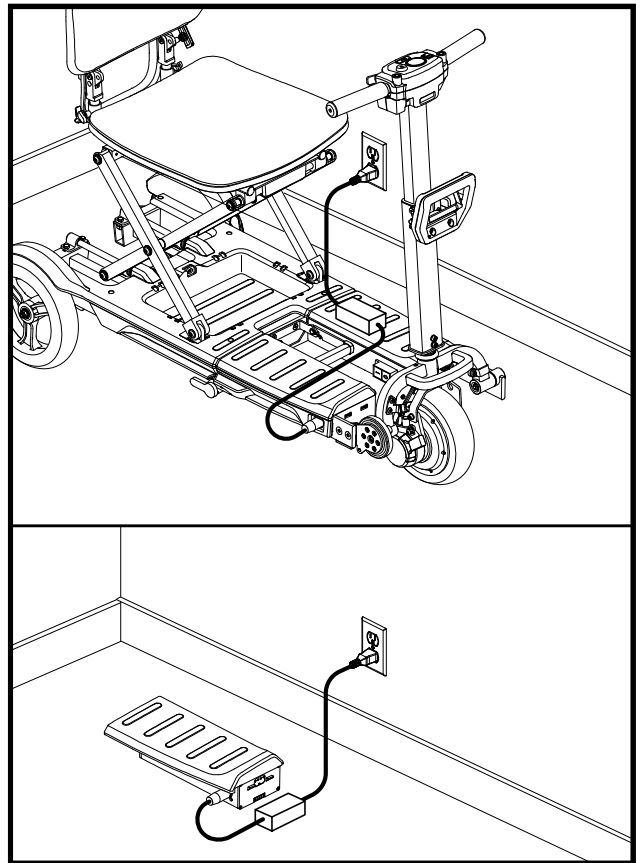

Figure 8. Battery Charging
1. Place your scooter next to an electrical outlet. See figure 8.
5. Plug the charger power cord into the wall electrical outlet. See figure 8.
6. Wait two (2) minutes. Two (2) red LED lights on the charger signify that charging has begun.